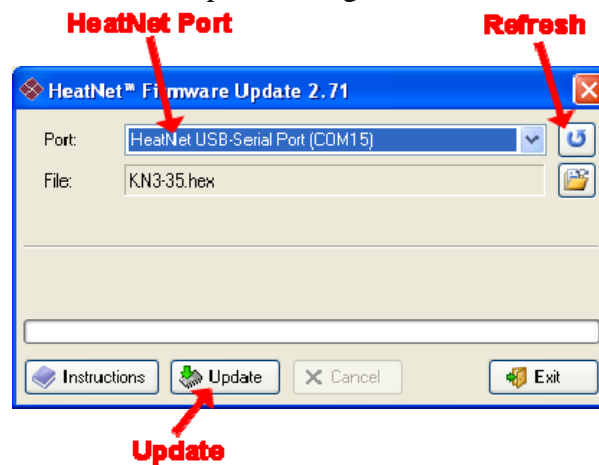

Figure 3: HeatNet Firmware Update
- c. Press the “Refresh” button (Figure 3).
- d. Select the port (Figure 3). The port must indicate that it is a HeatNet port.